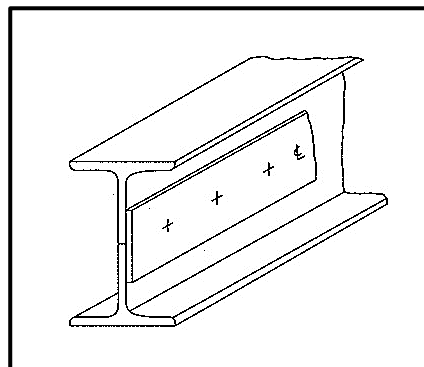

FIGURE 4.4
4.4 Identify the template in FIGURE 4.4 below.